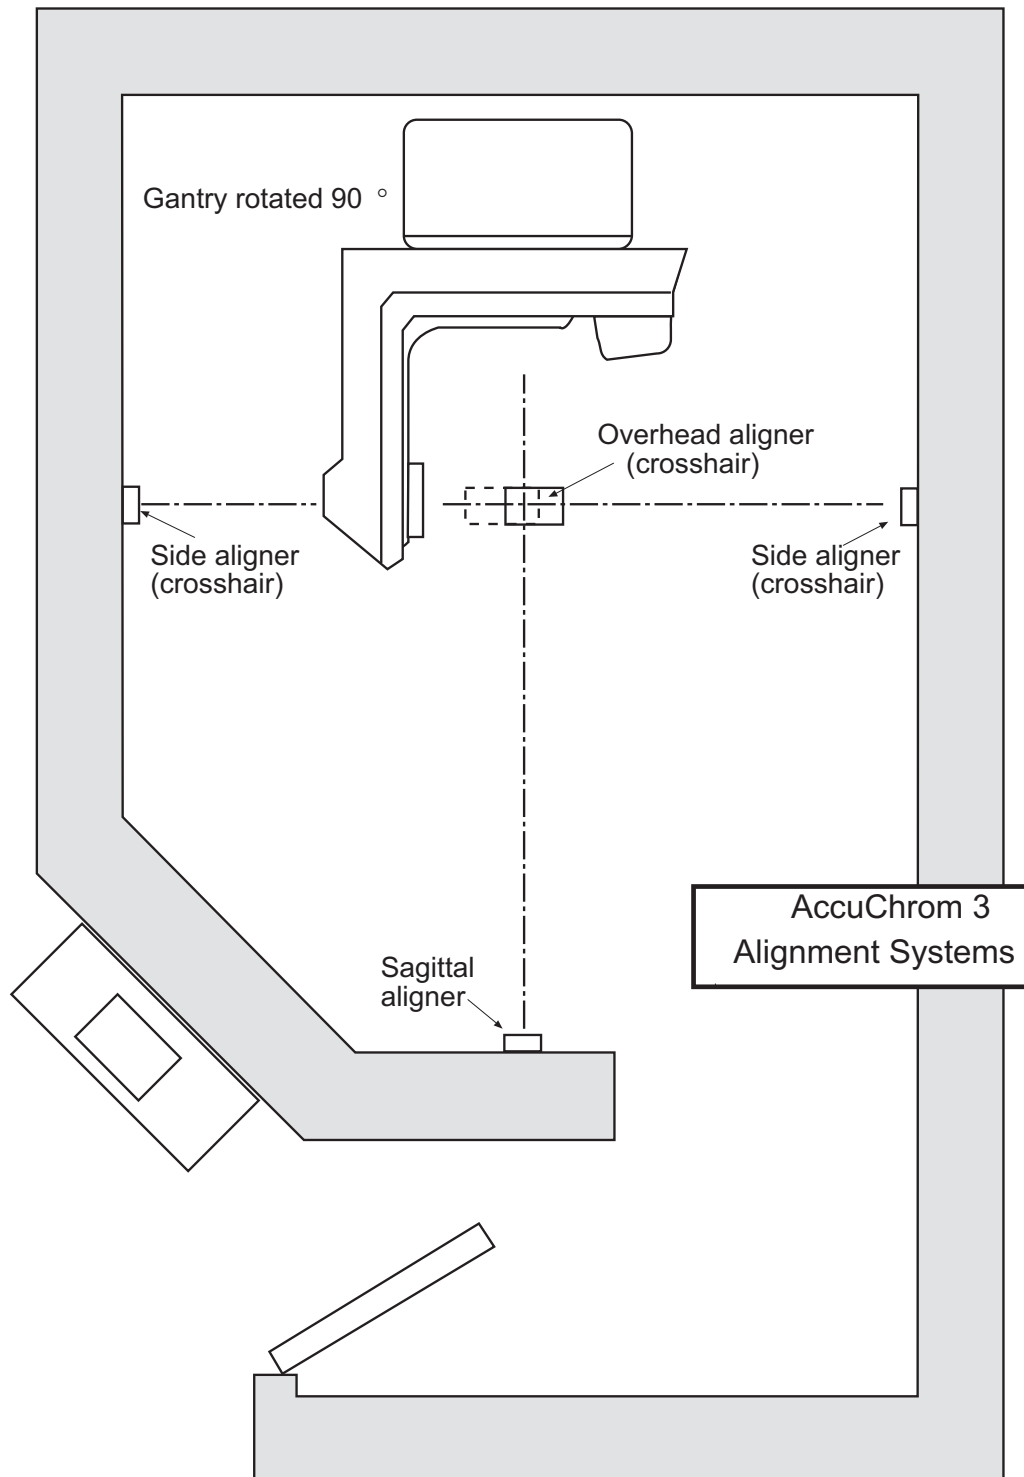

Figure 1
**CAUTION:** The location of each optical aligner is determined in relation to the therapy machine’s crosshair and isocenter. Before installing an optical alignment system, ask the physicist to verify that the field light aligns with the therapy machine’s isocenter. See Figure 1 on page 9.